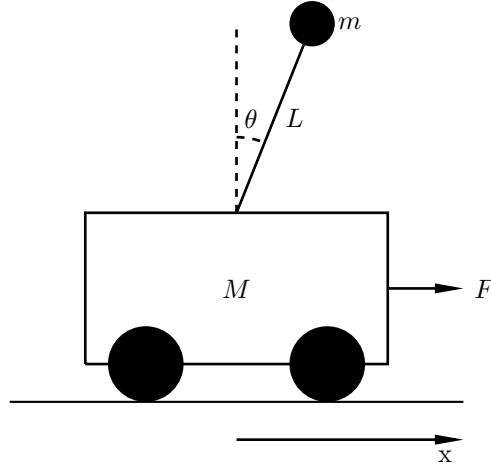

Figure 2: An inverted pendulum, held up by applying a force to the wagon.
2. A simplified model of an inverted pendulum (see Figure 2) is described by the following equations